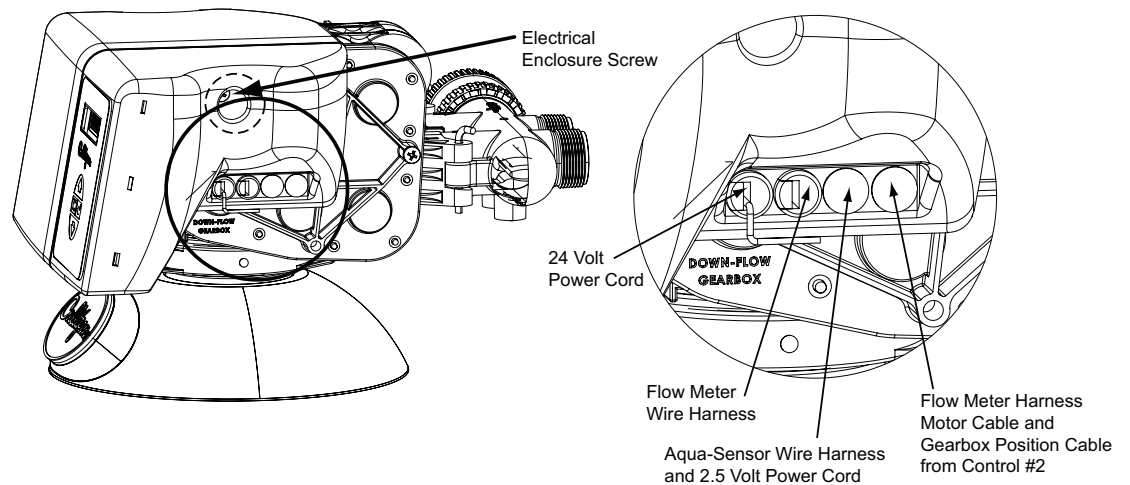

Figure 17. Circuit board connections.
1. Remove the electrical enclosure from the control valve. First remove the electrical enclosure screw and then gently remove the enclosure from the control. Refer to Figure 17 and below instructions.